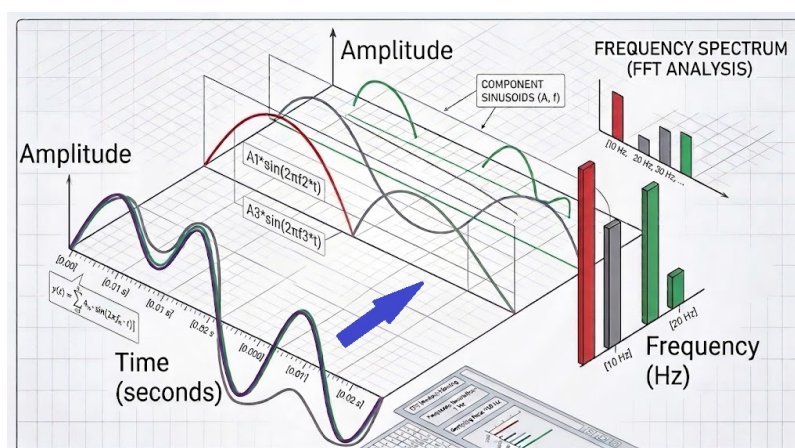

Figure 23: FT from time domain to frequency domain
- The Frequency Domain is the recipe — the broken-down smoothie showing exactly how much of each ingredient (frequency) makes up the whole (Figure 23).